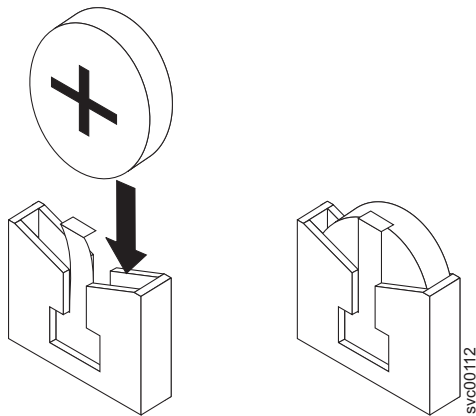

Figure 179. CMOS battery socket
- c. Slide the battery down until it snaps into place, as shown in Figure 179.